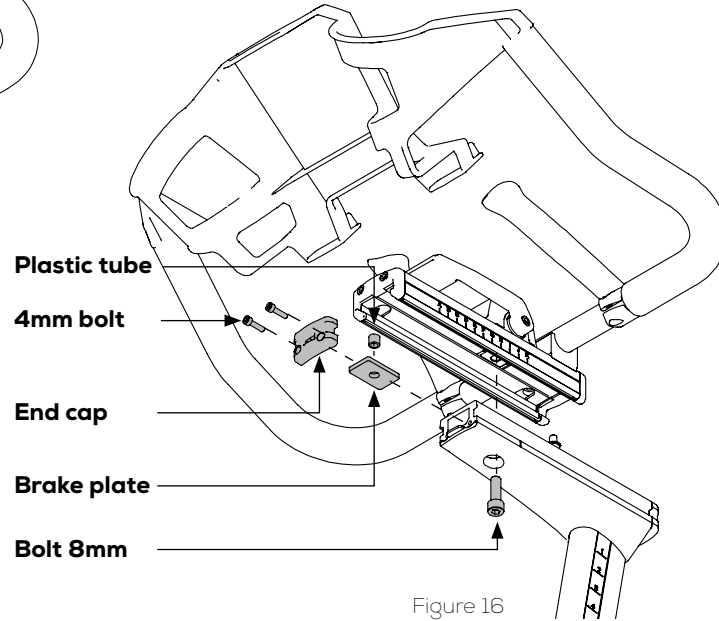

Figure 16
4) Remove the handlebar, 8mm bolt, brake plate and plastic tube. See figure 16.
Never use grease or vaseline oil on the Brake plate. See figure 16.